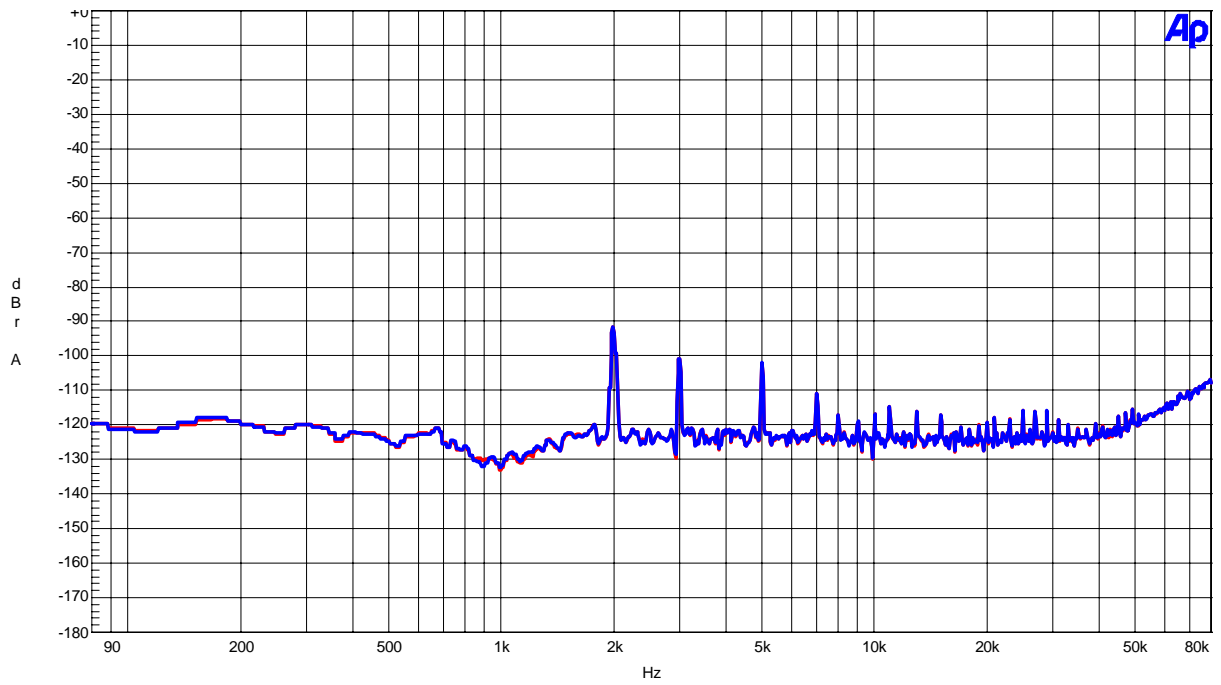

Figure 28. FFT(Input Frequency=1kHz, Input Level=0dBFS,Notch-on)
- Figure 28. FFT (Input Frequency =1kHz, Input Level =0dBFS,Notch-on)